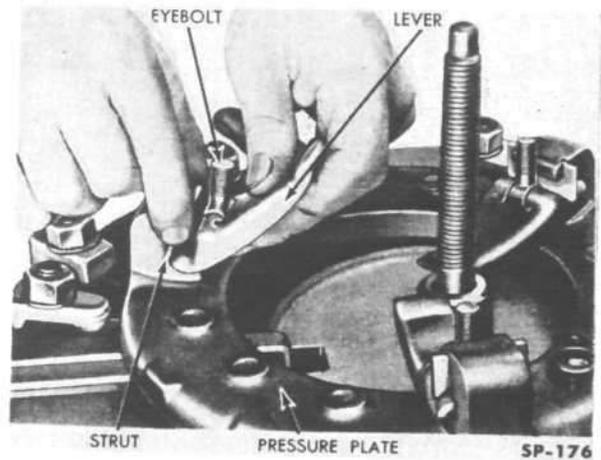

FIG. 184—ASSEMBLING LEVERS ON CLUTCH PRESSURE PLATE
- b. Assemble the eyebolts, lever pins, pressure plate levers and struts on the pressure plate (Fig. 184). Install the nine or six pressure plate springs on the pressure plate.